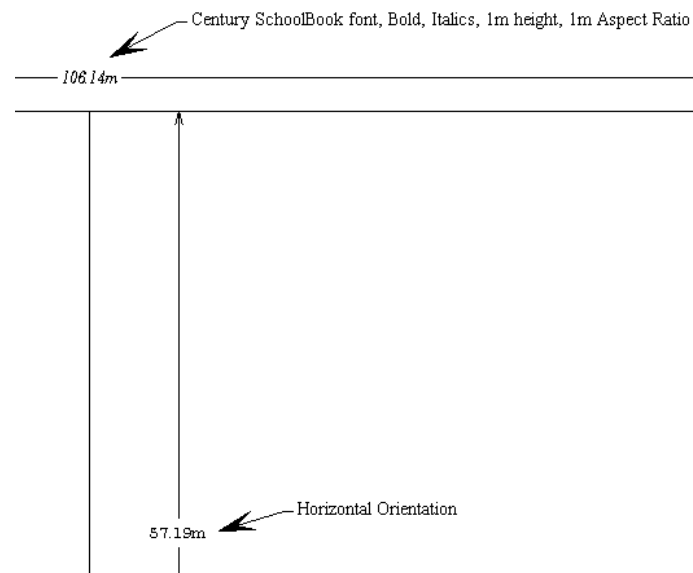

Figure 2-60 - Dimension Text
- Horizontal:** If the “Horizontal” action is selected, then the text is placed horizontally regardless of the orientation of the dimension line. This can make the text easier to read, as it will always be the right way up and not sideways (see Figure 2-60).